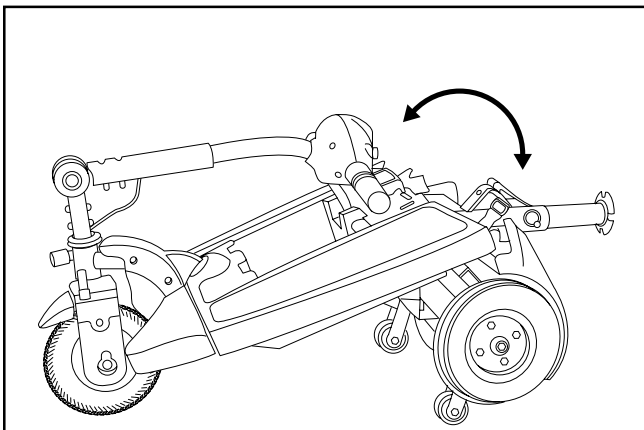

Figure 20. Frame Positioning
1. Push back on the seat post to pivot the rear section backward until it is standing vertically on its end. See figure 20.
3. Holding the seat post, slowly pivot the rear section forward until the curved locking brackets are fully connected onto the top rear pegs. See figure 20.